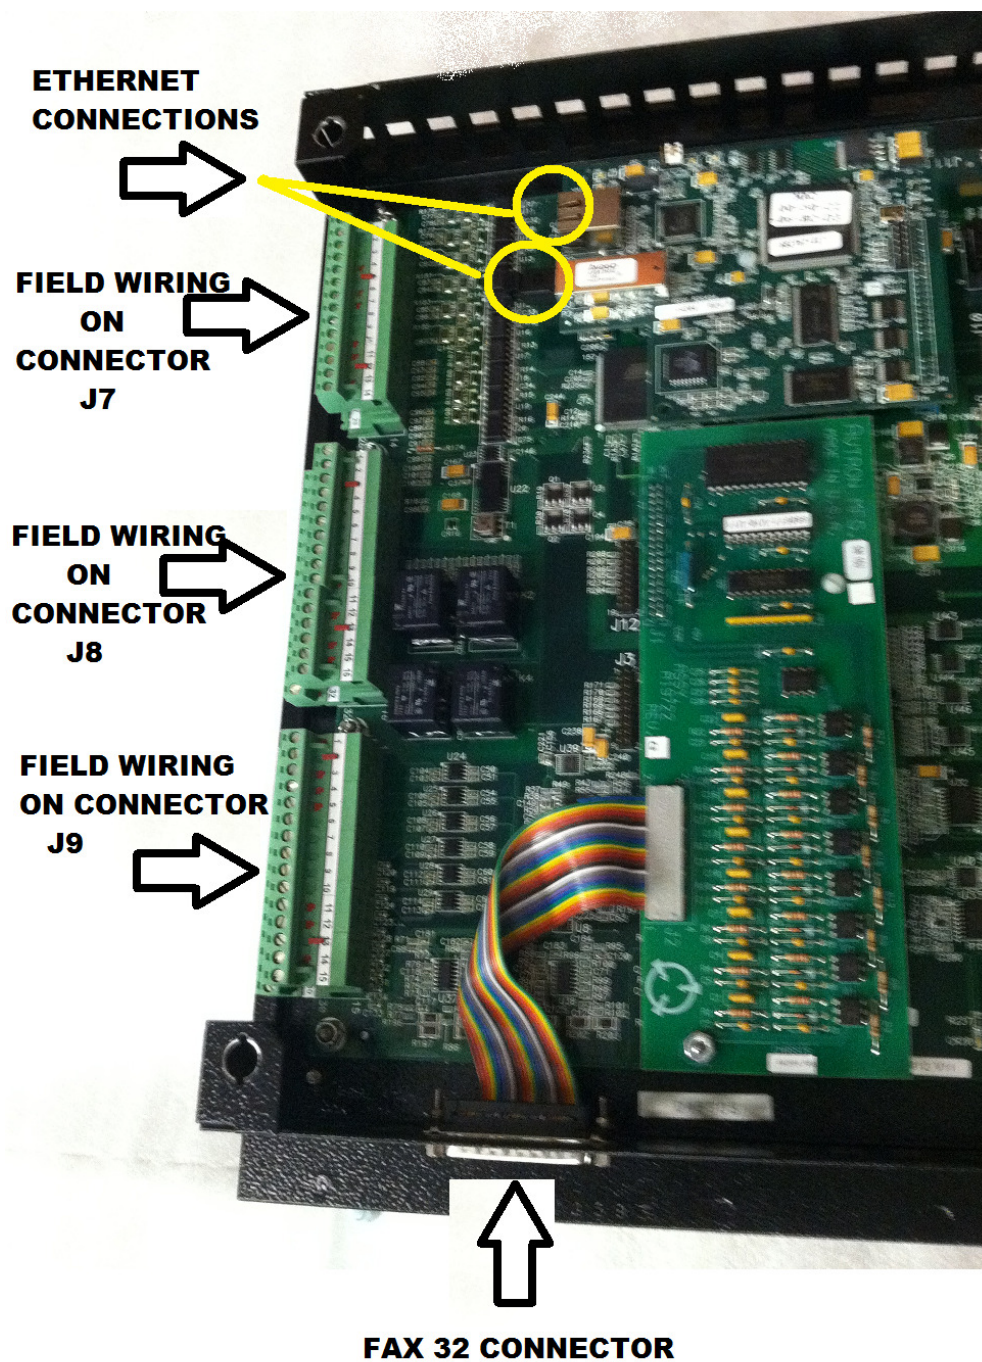

Figure 12-9. The field wiring to be reconnected are shown in this ADDvantage-32 PLUS electronics enclosure image.
- 8 Reinstall all field wiring connectors that were removed in step 3 as shown below in Figure 12-9.